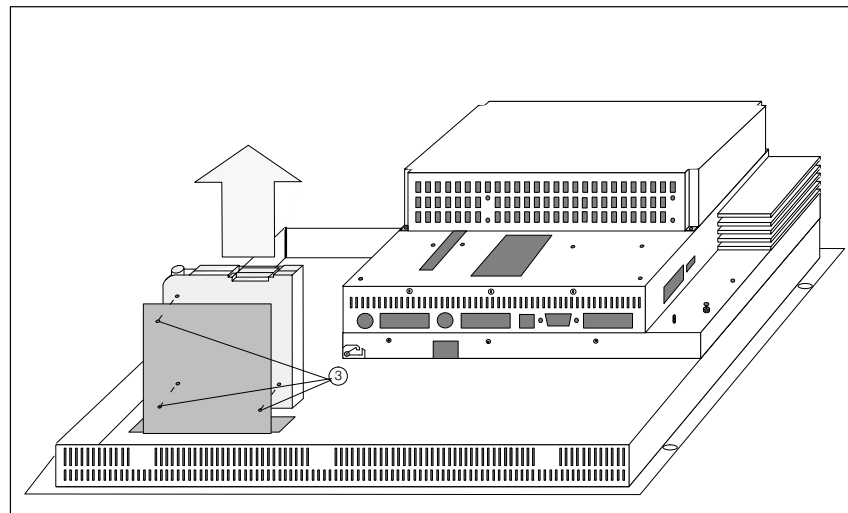

Figure 6-12 Removing the screws on the floppy disk drive mounting bracket and removing the floppy disk drive from the base plate
2. On the rear of the floppy disk drive base plate, release three screws (3) (see Figure 6-12).